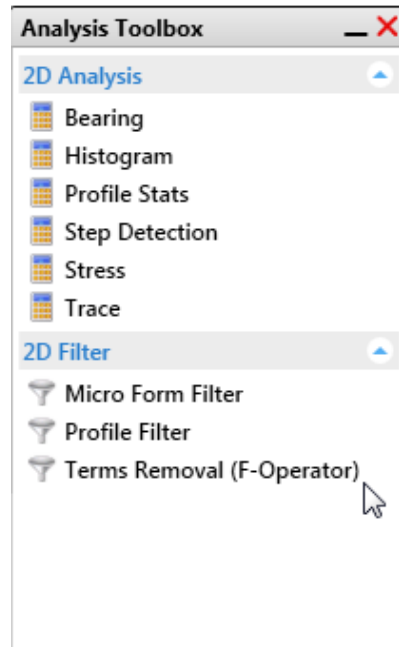
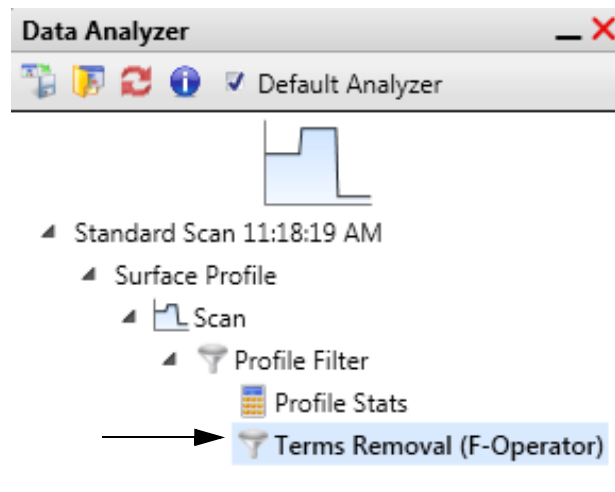

Figure 4-17: Terms Removal (F-Operator) in the Analysis Toolbox
Figure 4-18: Terms Removal (F-Operator) in the Data Analyzer Tree
- 1 Click **Terms Removal (F-Operator)** in the Analysis Toolbox (see Figure 4-17) to add it to the Data Analyzer tree (see Figure 4-18).